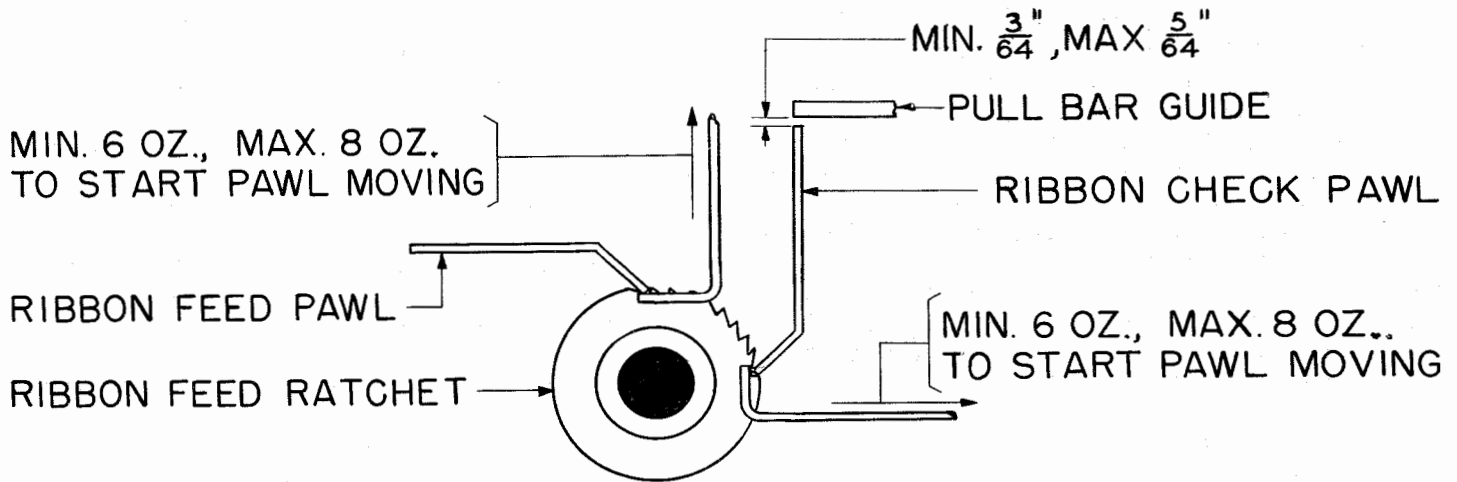

Figure 26
2.53 Ribbon Check Pawl (top end) shall clear the lower surface of the pullbar guide by minimum 3/64 inch, maximum 5/64 inch. Gauge by eye. (See Figure 26.)
To Gauge: With the ribbon-feed shaft pushed to the right, and the main shaft in its stop position, hook the scale over the extreme lower end of the pawl and pull at right angles to the pawl, as in Figure 26. Minimum 6 ounces, maximum 8 ounces should just start the pawl moving away from the ratchet. Make sure that the pawl does not bind against a tooth on the ratchet when tension is being measured.